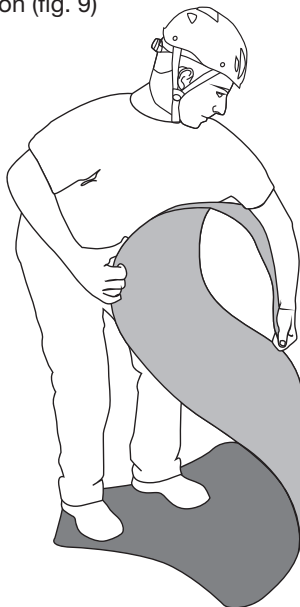

Fig. 9
- Remove the “**ROLLY**” rescue sheet from the transport bag (O) and remove the ratchet sling (N)
- Distend the support surface (A) and flatten it, rolling the ends over in the opposite direction and folding the central section (fig. 9)